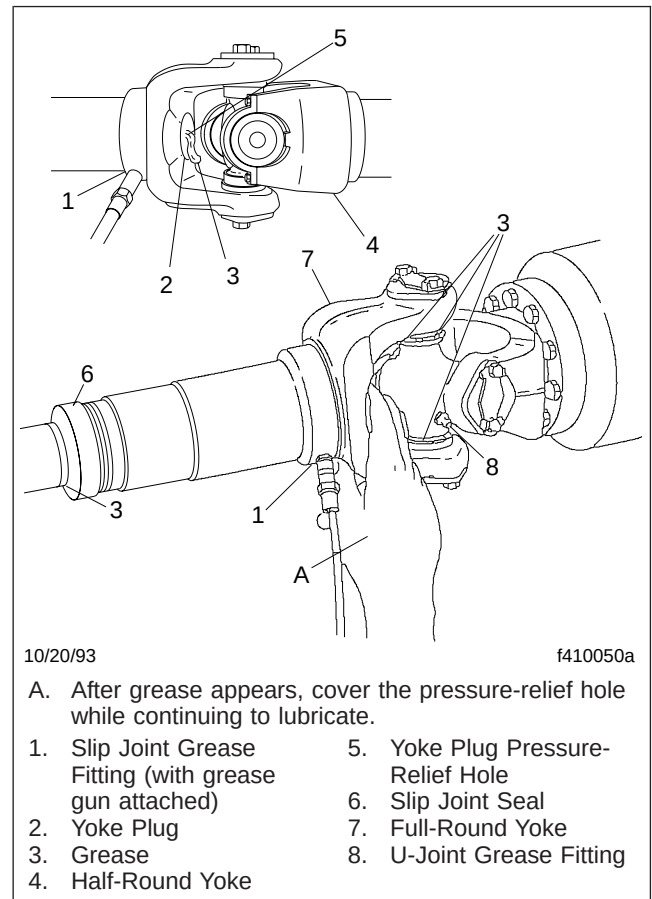

Fig. 5, Slip Joint and U-Joint Lubricating
8. For driveshafts with slip joints, check to be sure the yoke plug is not loose or missing. See Fig. 5, Ref. 2. Repair or replace the yoke plug as needed. If the yoke plug is missing, the splined shaft may be hitting the plug and knocking it out; contact your Regional Service Office for assistance in determining the correct driveshaft length.
1. Wipe all old grease and dirt from each U-joint grease fitting. See Fig. 5, Ref. 8.
1. Wipe all old grease and dirt from the slip joint grease fitting. See **Fig. 5**, Ref. 1.
2. Use a hand-type grease gun or a high-pressure gun with a low-pressure adapter, to lubricate the slip joint. Add multipurpose chassis grease (lithium 12-hydroxy stearate, NLGI grade 1 or grade 2, with EP additives) until it appears at the pressure-relief hole in the yoke plug. Then cover the relief hole with your finger, while continuing to apply gun pressure until new grease appears at the slip joint seal. See **Fig. 5**. This ensures complete lubrication of the splines.